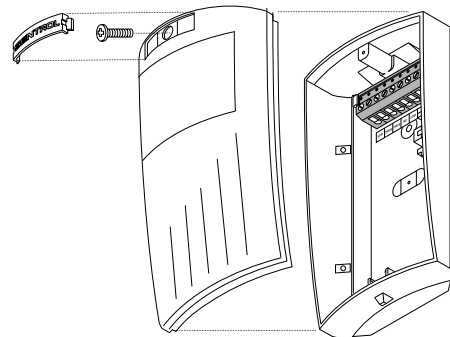

Figure 2. Detector (exploded)
2. To remove the front cover/electronic module, press down on the lever at the bottom of the unit and pull the cover off. Remove the nameplate and loosen the screw if necessary. To remove the nameplate, insert a small screwdriver into one of the nameplate side slots and gently push in on the nameplate. See Figure 2.
9. Tighten the screw and replace the nameplate. See Figure 2.